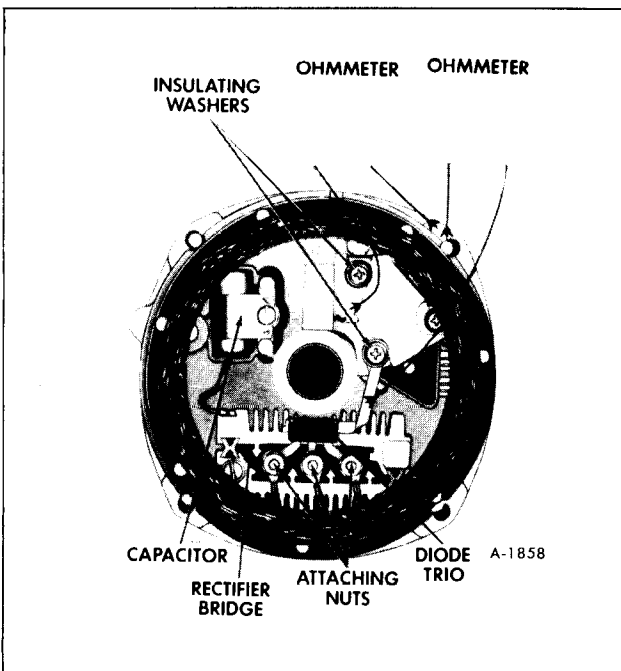
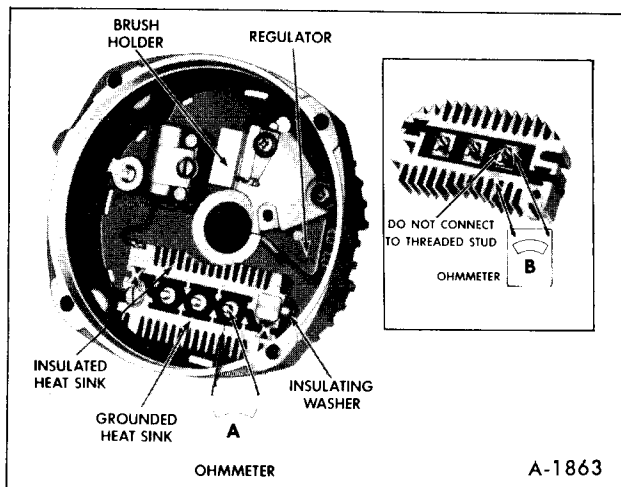

Figure 19-Slip Ring End Frame
Figure 24-Rectifier Bridge Check
b. Connect ohmmeter using lowest range scale from brush lead clip to end frame as shown in Step 1 in Figure 19 then reverse lead connections.
d. A grounded brush lead clip can result from omission of insulating washer (figure 19) omission of insulating sleeve over screw, or damaged insulating sleeve. Remove screw to inspect sleeve. If satisfactory, replace regulator.
9. If output is within 10% of rated output, replace the regulator (figure 19).
The diode trio is identified in Figure 19. First, connect an ohmmeter using lowest range scale from diode trio long connector to end frame as shown in Step 2, Figure 19, then reverse lead connections. If both readings are the same, check for grounded brush lead clip caused by omission of insulating washer (figure 19), omission of insulating sleeve over screw, or damaged insulating sleeve. Remove screw to inspect sleeve. **If screw assembly is correct, and both ohmmeter readings are the same, replace regulator.**
NOTE: Figures 19 and 23 illustrate two diode trios differing in appearance. Either one of these diode trios may be used in these generators, and the two are completely interchangeable.
To check the rectifier bridge, connect the ohmmeter to the grounded heat sink and one of the three terminals, (figure 24). Connect to flat metal connector, and not onto threaded stud. Then reverse the lead connections to the grounded heat sink and same terminal. If both readings are the same, replace the rectifier bridge. A good rectifier bridge will give one high and one low reading. Repeat this same test between the grounded heat sink and the other two terminals, and between the insulated heat sink and each of the three terminals. This makes a total of six checks, with two readings taken for each check.
To replace the rectifier bridge, remove the attaching screws, and disconnect the capacitor lead. Note the insulator between the insulated heat sink and end frame (figure 24). Rectifier bridges may vary in appearance but are completely interchangeable in these generators.
After removing the three attaching nuts, the stator, and diode trio screw (figure 24) the brush holder and regulator may be replaced by removing the two remaining screws. Note the two insulators located over the top of the brush clips in Figure 19, and that these two screws have special insulating sleeves over the screw body above the threads. The third mounting screw may or may not have an insulating sleeve. If not, this screw must not be interchanged with either one of the other two screws, as a ground may result, causing no output or uncontrolled generator